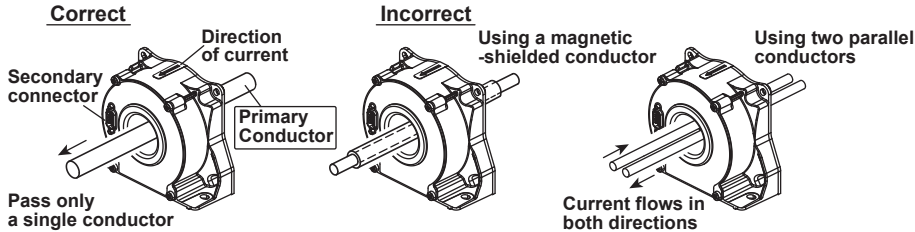

Figure 3. Insertion of a Conductor
- Pass only the conductor in which the current you want to measure is flowing through the primary conductor feed-through hole. Correct measurements cannot be taken if you pass a conductor with magnetic shielding or conductors in which the currents are flowing in opposite directions through the feed-through hole. (See the examples in Figure 3.)